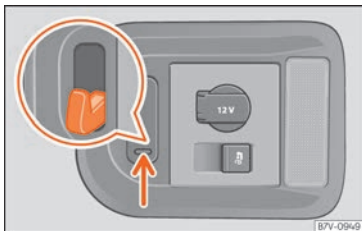

Fig. 150 In the luggage compartment: bag hooks.
On the right hand side of the luggage compartment there are some fold-out hooks for hanging bags » **Fig. 150**.
- Press the retaining hooks down » **Fig. 150** (arrow) and fold them.